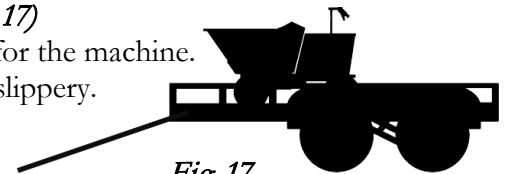

Fig 17
- Always load and unload the machine on a level surface. (Fig 17)